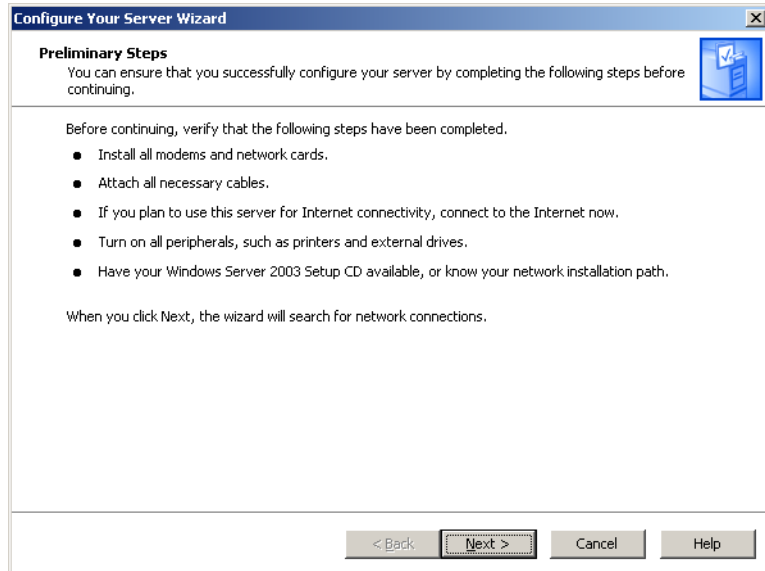

Figure D-22 Preliminary steps
3. Review the **Preliminary Steps** shown in figure D-22 and then click the **Next** button to proceed once you have verified these steps have been completed.